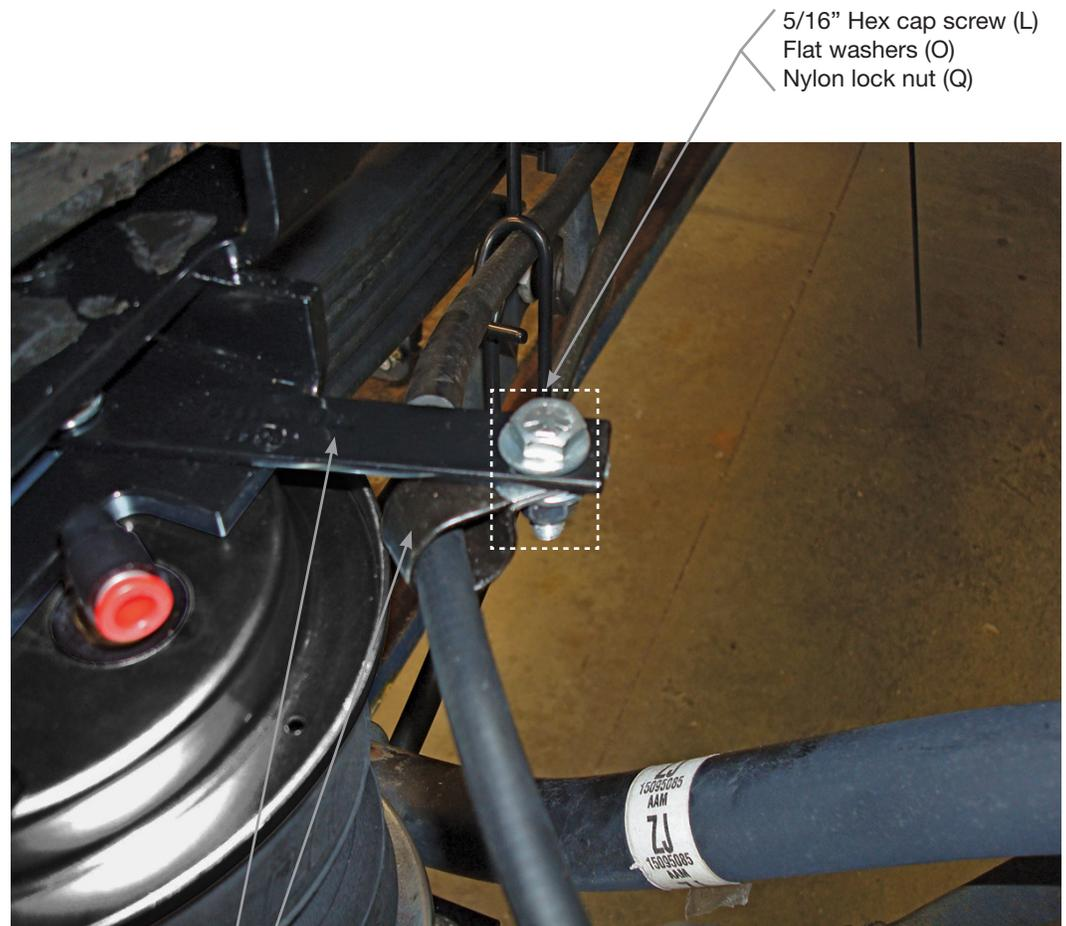

fig. 9
1. Installing a clip (K) to the cable and attach the clip to the bracket using a 5/16" hex cap screw (L), two flat washers (O), and a nylon lock nut (Q). Install the cable so it is on the bellows side of the mounting hardware (fig. 9).